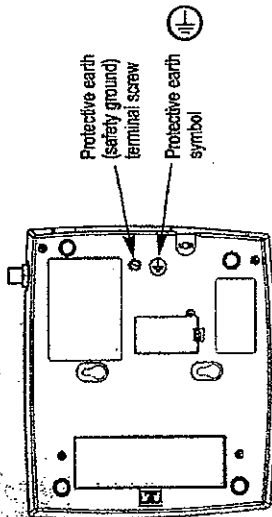

Figure 9a - Earth ground terminal screw.
1. A protective earth (safety ground) terminal (screw), marked with a protective earth symbol is provided on the back of the SX5 - see Figure 9a. Connect this terminal to a good earth ground (i.e., a cold water pipe) by means of an 18 gauge or heavier insulated wire. The wire insulation should be green with a yellow stripe to indicate that this is a protective earth (safety ground) connection.